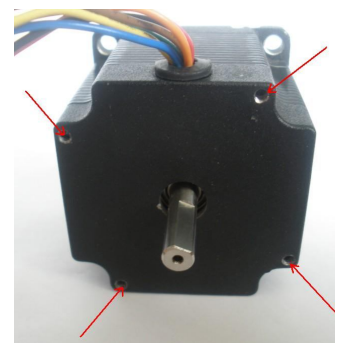

Figure 2
2. The cover mounts on the existing motor's tapped holes (**Figure 2**).